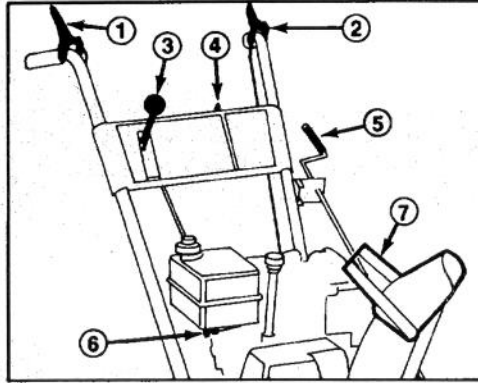

Figure 12
Auger Drive Control (Fig. 12) — Control has two positions: ENGAGE and DISENGAGE. To engage auger and impeller, compress lever against right handle grip. To disengage, release lever.
Traction Control (Fig. 12) — To achieve traction, lever must be compressed against left handle grip. To stop traction, release lever.
Speed Selector (Fig. 12) — The control has four positions: reverse, 1, 2 and 3. To change speeds, move gear shift to position desired. Lever will lock in notch at each speed selection. Use positions 1, 2, and 3 depending on snow conditions.
Ignition Switch (Fig. 12) — Switch has two positions: ON and OFF. Rotate key to ON before starting engine with the recoil starter. To stop engine, rotate key to OFF.
Fuel Shut-Off Valve (Fig. 12) — Valve is located under fuel tank. Close valve to stop fuel flow from fuel tank and open valve to allow fuel to flow to the carburetor. Close valve when snowthrower is not used.
Discharge Chute Control (Fig. 12) — Rotate discharge chute control clockwise to move discharge chute to the left and counterclockwise to move chute to the right.
Chute Deflector Handle (Fig. 12) — Deflector handle is on top of discharge chute and it is used to control height of the snow stream.
3. Open fuel shut-off valve below fuel tank (Fig. 12).
5. Rotate ignition key to ON (Fig. 12).
1. Release traction and auger drive control (Fig. 12).